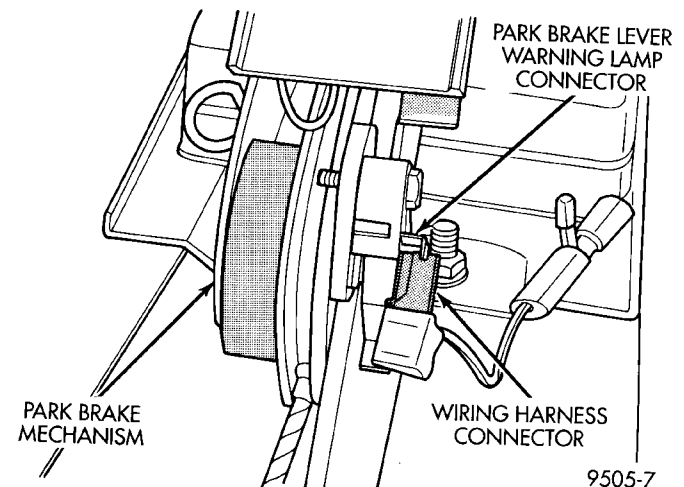

Fig. 10 Brake Warning Lamp Connection To Park Brake Lever
(10) Remove wiring harness electrical connector for brake warning light from park brake lever (Fig. 10).